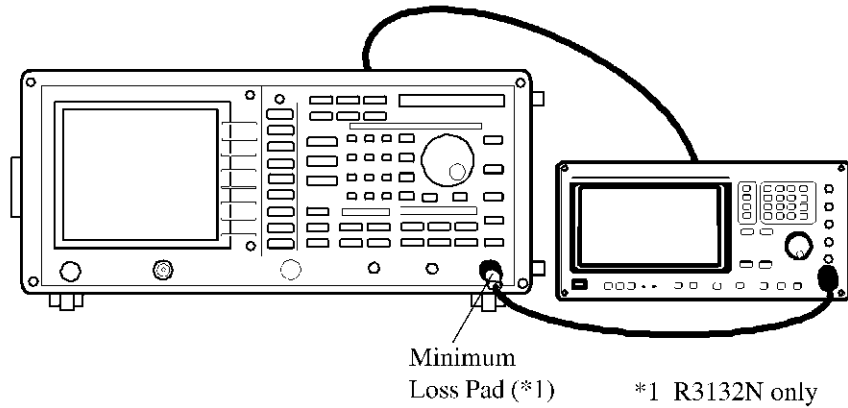

Figure 5-12 Setup of Noise Sidebands Test
1. Connect the signal generator as shown in Figure 5-12.